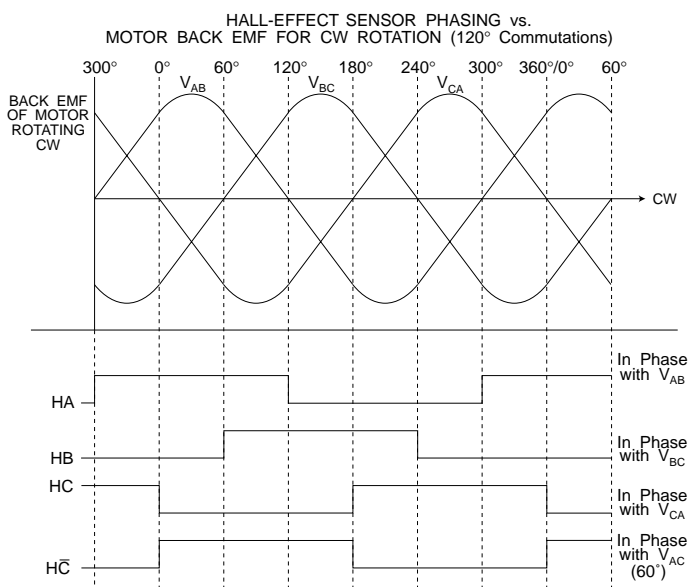

FIGURE 4. HALL PHASING
The PW-82520/21N will alternately operate with Hall phasing of 60° electrical spacing. If 60° commutation is used, then the output of HC must be inverted as shown in FIGURES 4 and 5. FIGURE 4 illustrates the Hall sensor outputs along with the corresponding back emf voltage they are in phase with.
* DIRECTION is based on the convention shown in FIGURE 4.